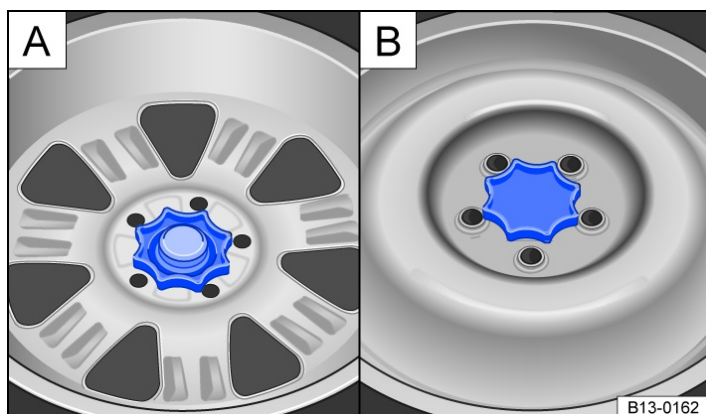

Fig. 2 In the luggage compartment: **A**: handwheel for securing spare wheel, **B**: handwheel for securing temporary spare wheel.
- Fully unscrew the handwheel in the middle of the spare wheel → Fig. 2 A or temporary spare wheel B anticlockwise.